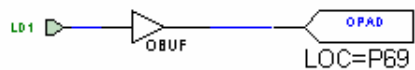

Figure 4.3
- Do the same thing for the LED (LD1 to LD8) connecting output buffer to output pads and constraining them to the LDs as shown in Figure 4.3.